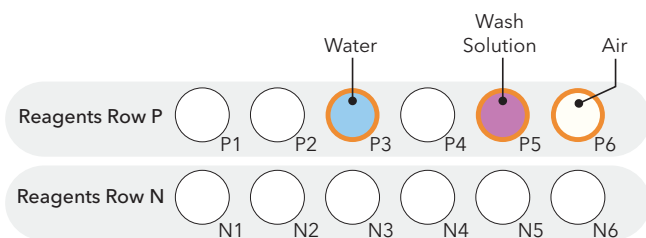

FIGURE 4. Post-Run Cleanup reagent vial placement.
1. Verify that the reagent vials are placed as shown in FIGURE 4. Check the volumes in each vial and fill according to the table in Step D, if necessary.